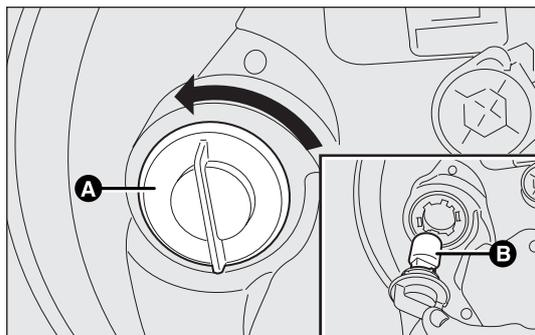

fig. 161
- turn the bulb holder A-fig. 161 anti-clockwise using the tab and pull it out;